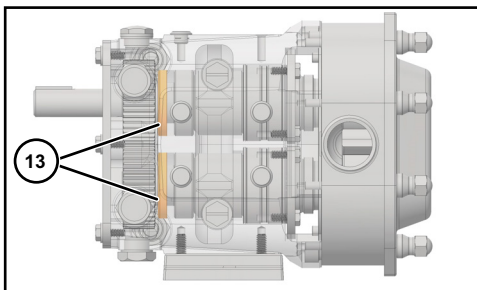

Figure 49 - Remove Rear Oil Seals
11. Press out and discard both rear oil seals in the gear case (Figure 49, item 13).